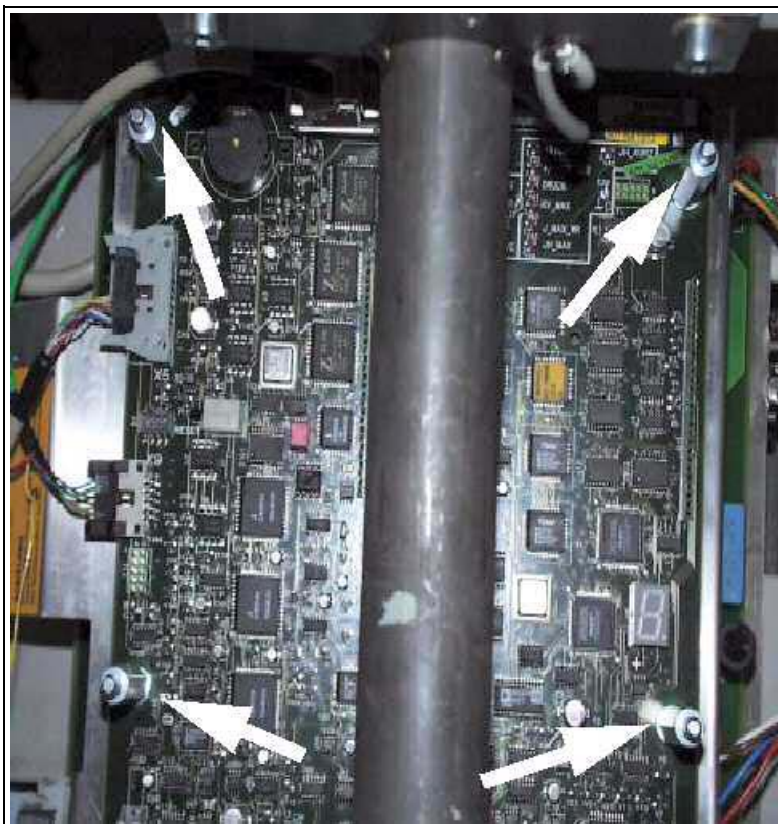

Fig. 15: Mounted bolt
- Attach the hexagonal bolts (see \(Fig. 15 / p. 23\)).